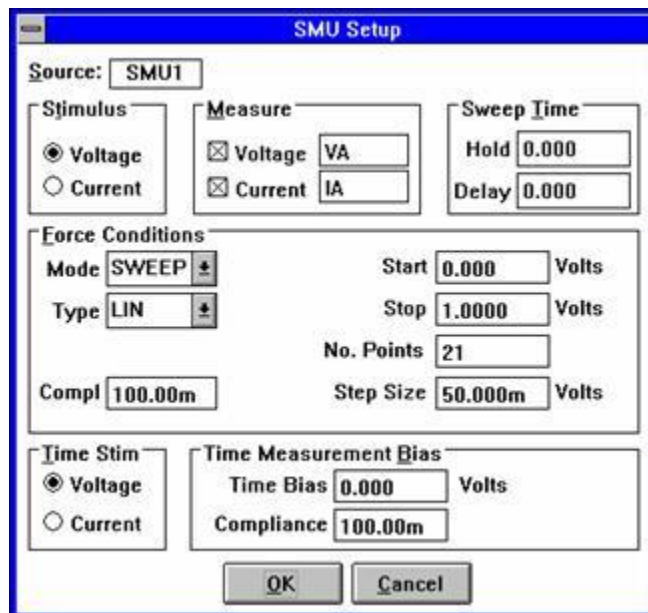
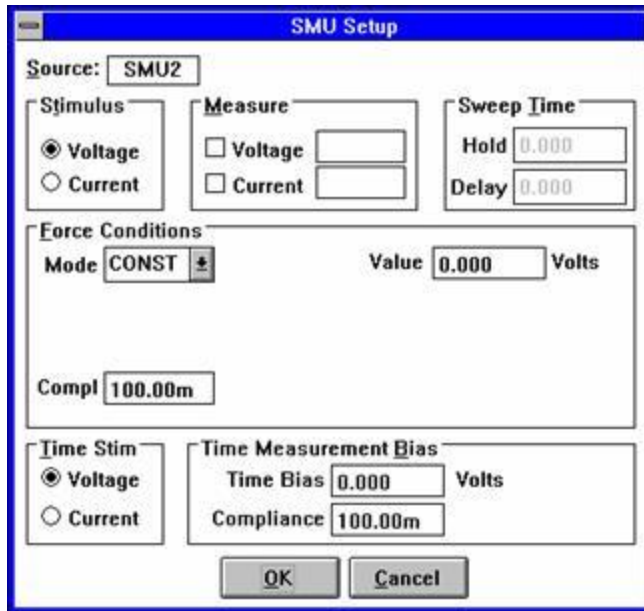

Figure 7: SMU1 Source/Measure Configuration for the DiodeOn Test Setup
Figure 8: SMU2 Source/Measure Configuration for the DiodeOn Test Setup
2. Configure the SMU1 controls as shown in Figure 7. Configure the SMU2 controls as shown in Figure 8. Use the mouse or TAB key to move between the different switches and fields in each Source Unit Setup dialogue box.